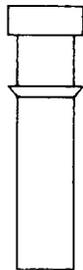

Fig. 6—KS-21722, L1, Socket
- (a) **KS-21722, L1:** The KS-21722, L1, socket (Fig. 6) is used in the voice frequency attenuator equipment in common systems.